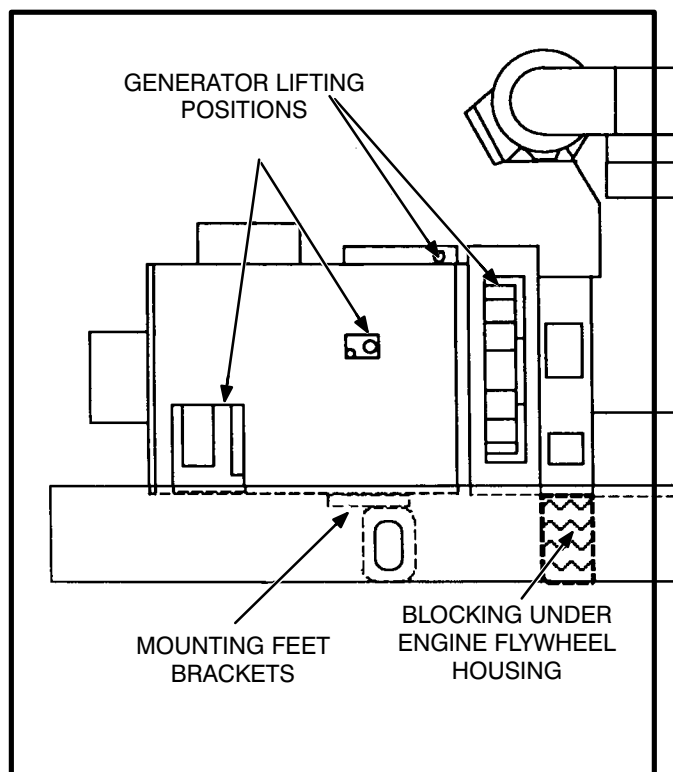

FIGURE 5-12. GENERATOR LIFTING POSITIONS
3. If generator set does not have chassis mounts at generator end (N855 and K19), block the rear of the engine in place by supporting the flywheel housing. A length of steel channel and wooden blocking is required to support the rear of the engine. Place the channel and blocking under the flywheel housing. Lower the generator until most of the set weight is supported by the blocking (see Figure 5-12).
4. Lift the generator slightly and remove any blocking from under the flywheel housing. Lower the generator (see Figure 5-12).